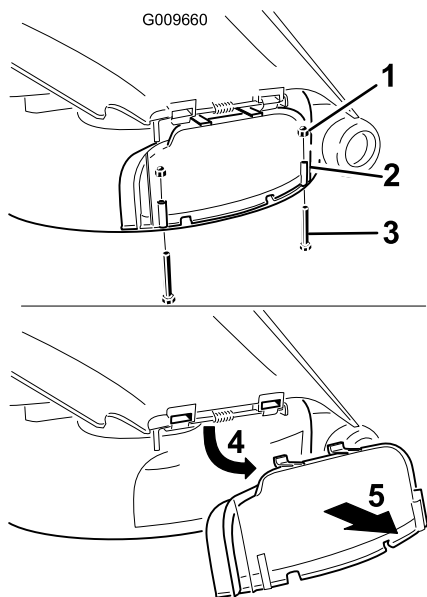

Figure 14
3. Remove the 2 bolts and nuts that secure the discharge cover to the mower (Figure 14).